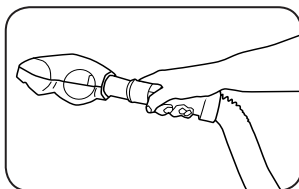
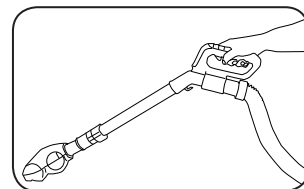

Fig. 6
Fig. 7
2. Attach the turbo brush to the end of the hose (Fig. 6) or to the end of the handle tube (Fig. 7).